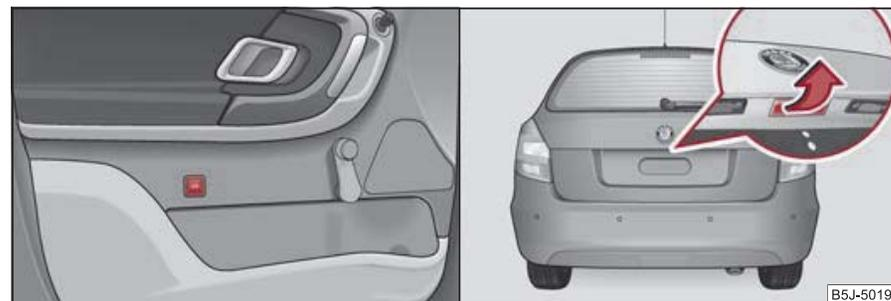

Fig. 28 Unlock the boot lid/handle of the boot lid
- In vehicles with central locking press the button in the driver's door ⇒ page 37, fig. 28 - left and open the boot lid in the direction of arrow ⇒ page 37, fig. 28 - right.
- In vehicles with central locking press the lever above the number plate and open the boot lid in the direction of arrow ⇒ page 37, fig. 28 - right.